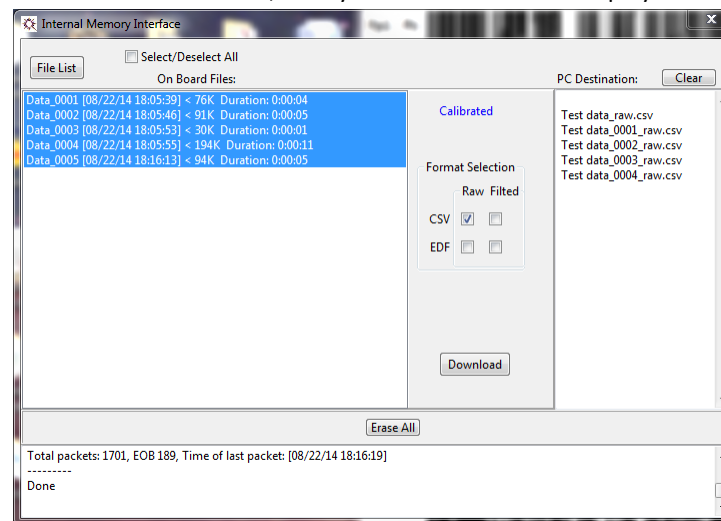

Figure 23 – Internal memory files downloaded to PC hard disk.
- The names of downloaded files written to disk appear in the **PC Destination** window, as illustrated in Figure 23.